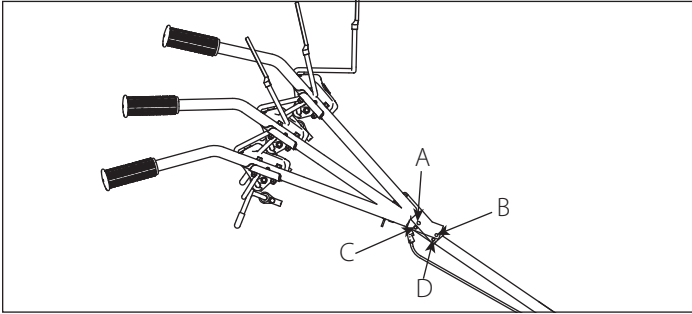

Figure 3
**HEIGHT POSITIONS:** SEE FIGURE 3